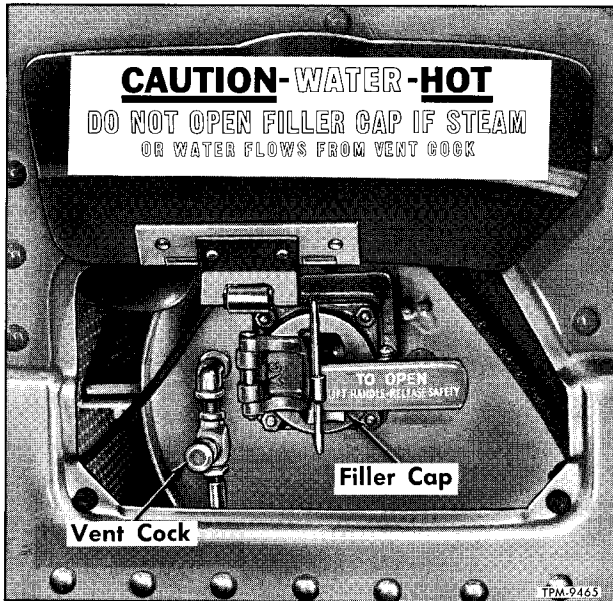

Figure 2—Surge Tank Filler and Vent Cock
1. Place one spacer, 0.440 inch thick, in flywheel to which is assembled a new flywheel plate (6, fig. 2).
2. Lay center plate (8, fig. 2) on spacer, then place another spacer of same thickness (0.440") on center plate.
5. Tighten twelve nuts to secure thrust plates (29, fig. 2). Proper torque for thrust plate nuts is 20 foot-pounds. Use staking tool at threads to lock the adjustment.
On coaches with hydraulic transmission, cooling system liquid is used to carry heat away from heat-exchanger on transmission. Pressure valve at surge tank is used to maintain pressure within cooling system. Temperature of coolant within engine is controlled by engine thermostats in thermostat housing at front of engine. Cooling system is filled through filler cap at surge tank (fig. 2).
4. Through filler cap (fig. 2) slowly fill system to level of filler cap opening.
2. At surge tank (fig. 2) open filler cap, and add water to level of cap opening.